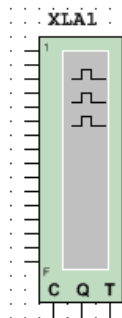

Figure 5. Logic analyzer.
- Add a logic analyzer from the instrument column, as shown in Figure 5.